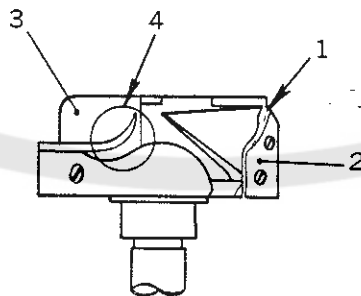

FIG. 42
SPECIALLY DISIGNED ROTATING HOOKS FOR ANGULAR SEAM SEWING (Fig. 42)
The rotating hooks for model 328RB-1 has been developed specifically for these machines and are provided with specific clearances (1) Fig. 42 to allow the most effective transit of the sewing thread. Furthermore, the hook for model 328RB-1 with its larger bobbin provides for much increased thread volume.